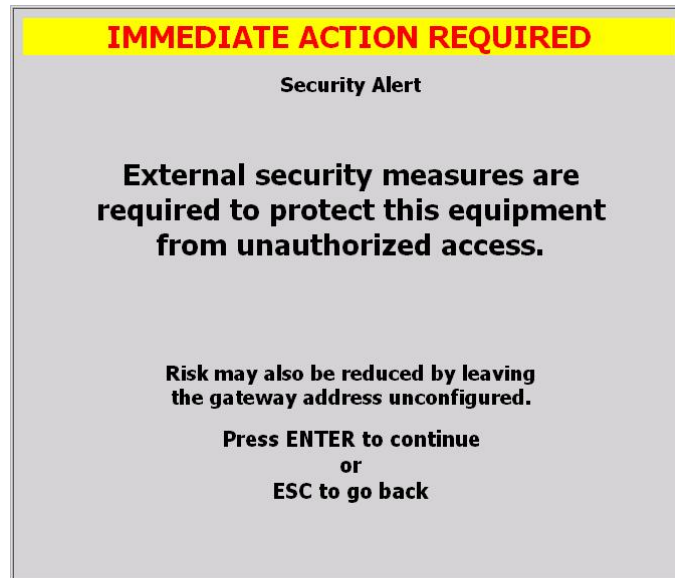

Figure 4.3-1 Network Connection Security Alert
7. Read the alert (see Figure 4.3-1), and click Enter.